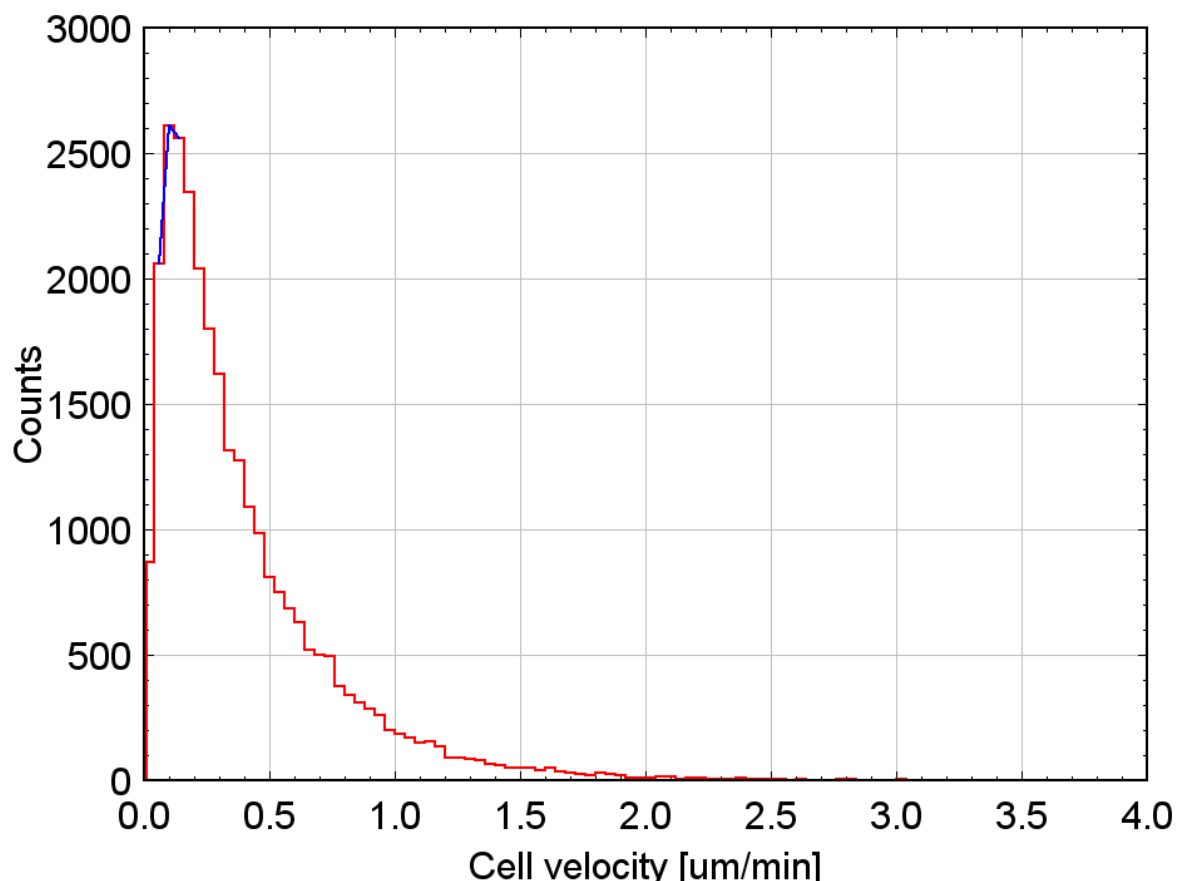

Figure 9. The velocity histogram (red) with a fitted parabola (blue).
distribution curves are used by CellTraxx to calculate the mean, mode and median (Q2) velocity, as well as the 75th percentile (Q3) velocity. The X-axis ends at the user defined "Highest cell velocity". See Figure 9 for an example plot.
- Examine the videos with valid tracks to see if most cells are tracked, and whether the tracks are prematurely halted or unreal, large movements are allowed. If too large, unreal movements can be seen, decrease the value for "Highest cell velocity". If long cell movements are lost i.e., a track is stopped when a cell makes a large movement, increase the value for "Highest cell velocity". Also inspect the output file <VIDEONAME>__Velocity-histogram.png and check that the velocity distribution curve is not significantly cut at the right end of the horizontal axis. The horizontal axis should ideally end where the smoothed tail of the distribution curve reaches zero. If too much of the tail is cut off, the "Highest cell velocity" value should be increased. If the curve reaches zero long before the right-hand edge, this parameter can be reduced. (See Figure 9 where the "Highest cell velocity" is reasonable.)